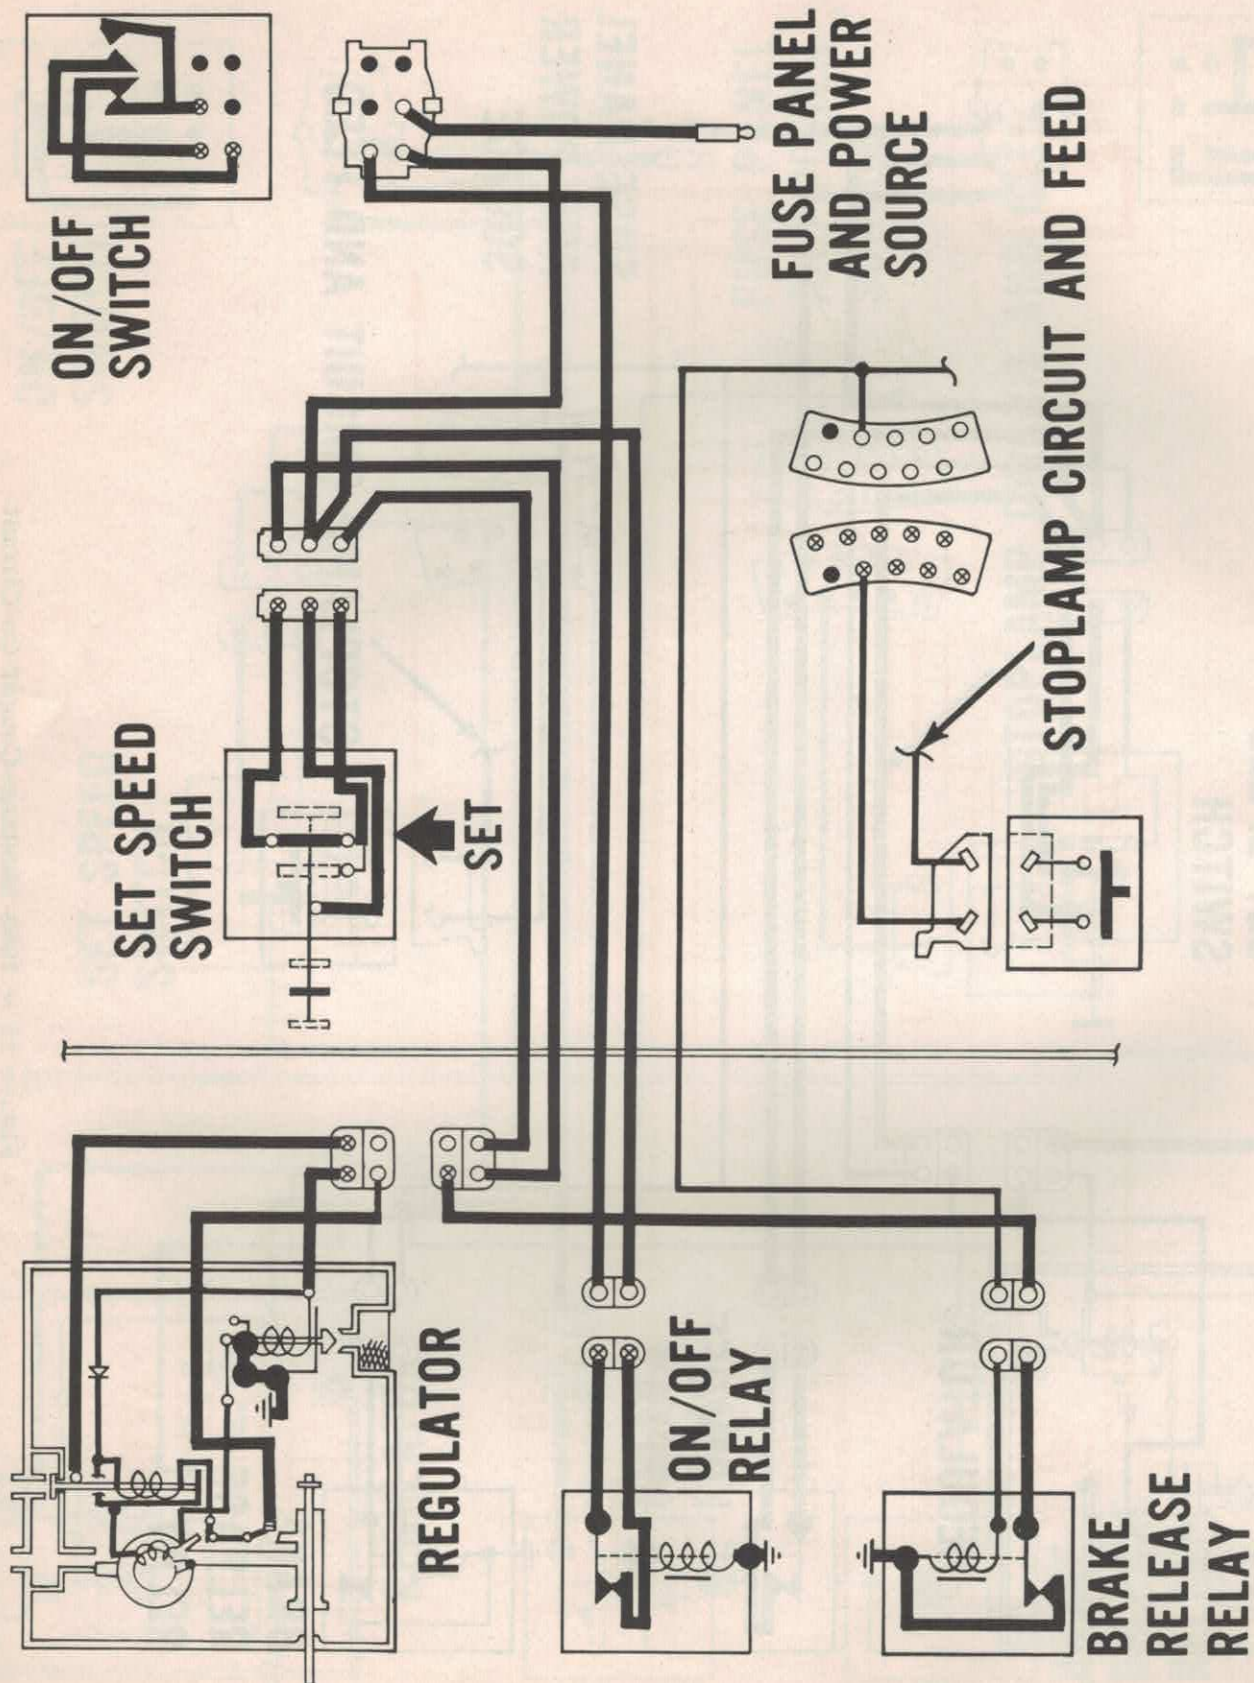

Figure 12 — 1969 Mustang-Cougar Set Speed Circuit
6. Using workbook diagram Figure 12, answer this question.